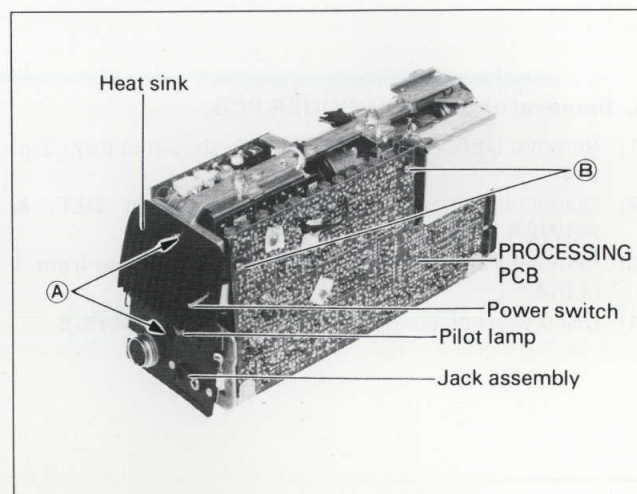

Fig. 9-6 Removal of the heat sink
The heat sink can be removed by removing the two screws (A) and the top rear screw (B) of PROCESSING PCB as shown in Fig. 9-6. The following parts attached to the heat sink are accessible.